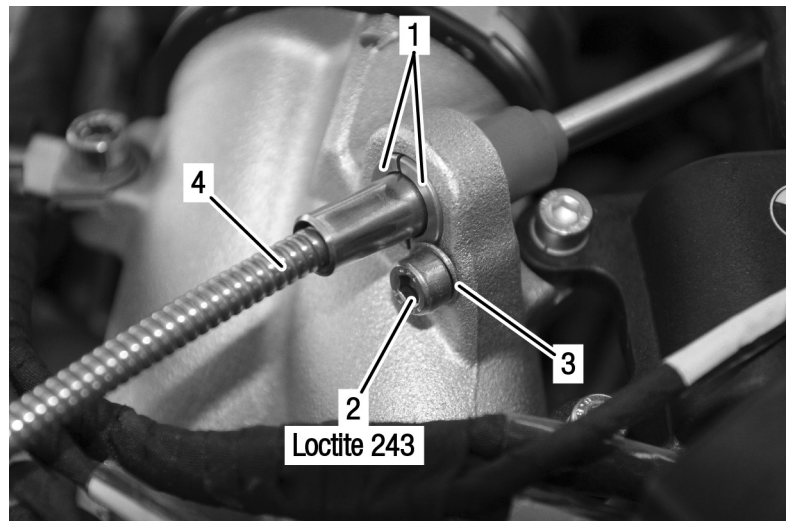

Fig. 1
- Place the governor actuator cable (pos. 4, fig. 1) with bushing halves (pos. 1, fig. 1) in place through the cast engine lifting bore on intake manifold 1/3 (see fig. 1 and 2) and attach to governor arm.
- The bushing is designed to be held in place with an Allen screw M5x10 (secured with LOCTITE 243) part no. 240153 (pos. 2, fig. 1) and the washer 5.3 part no. 927573 (pos. 3, fig. 1).